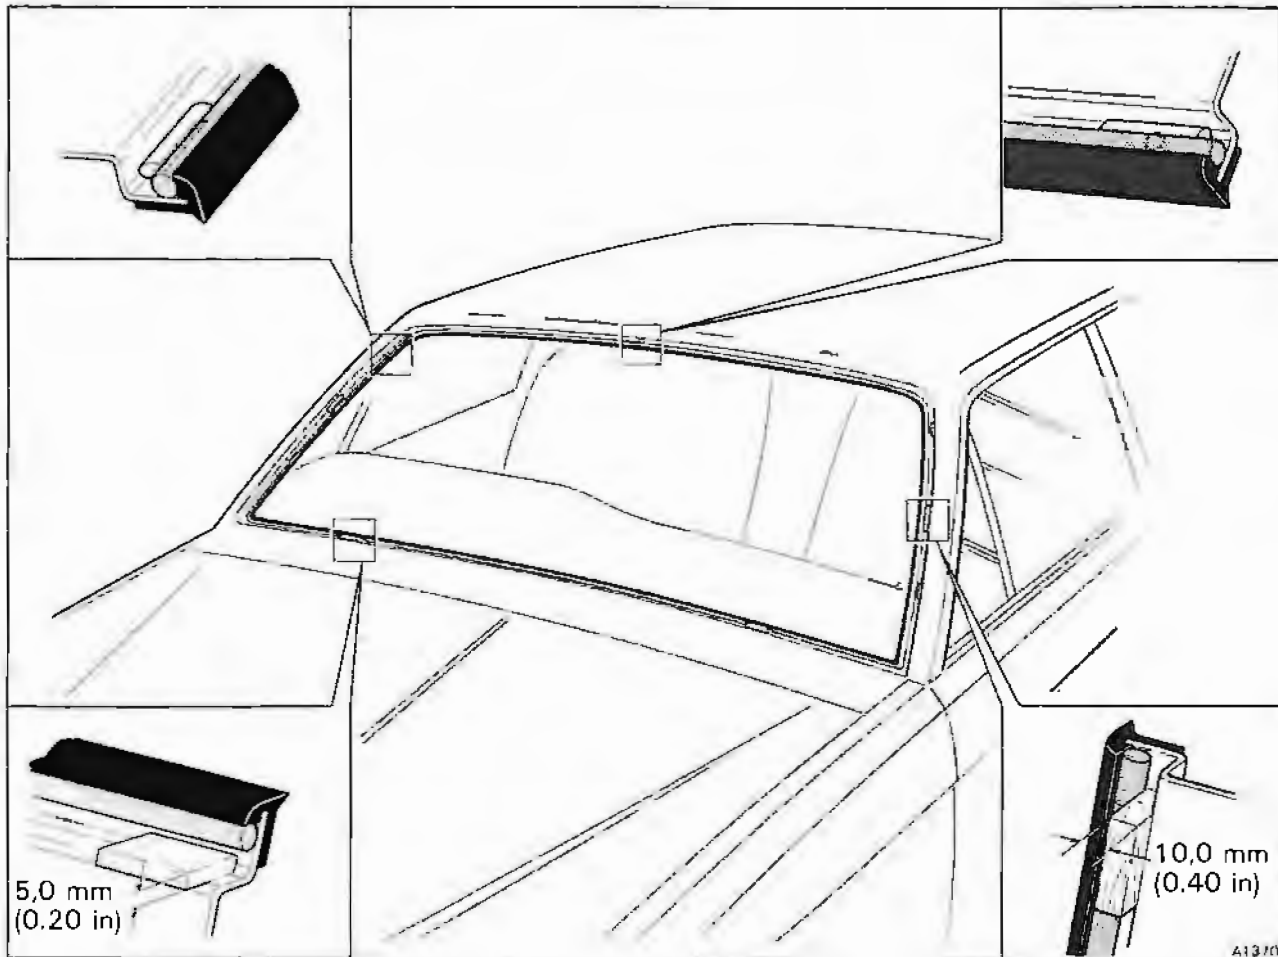

Fig. S8-4 Position of windscreen sealing compound and spacing blocks
5. Starting in the lower corner of an 'A' post, carefully unroll and press the Butyl strip lightly into position on the primed area of the windscreen aperture. Cut a separate length of Butyl strip for the lower windscreen flange, butting it against the 'A' post strips. Ensure that the Butyl strip is positioned against the spacing/finisher seal (see fig. S8-4). Do not remove the backing paper at this stage.
6. Place two 5 mm (0.20 in) thick hardwood spacing blocks into the bottom of the windscreen aperture. Also, position one 10 mm (0.40 in) thick spacing block half way up each 'A' post (see fig. S8-4).
10. Using either Arbomast Autograde sealant or Seelastik, apply four beads, each 6,40 mm (0.250 in) in diameter and 76 mm (3.0 in) long, over the retention slots in each 'A' post. Also, apply a 20 mm (0.80 in) long bead over the hole for the retention hook (see fig. S8-4).